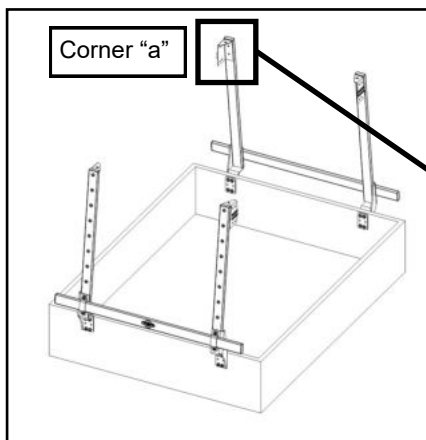

Fig. 5
5. See fig. 5. Install the cross bar mounting brackets to the top inboard side of each vertical tube in the orientations shown.